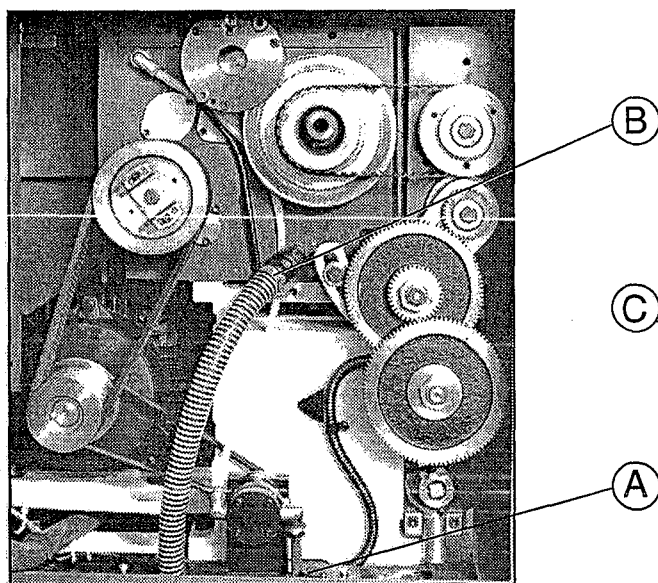

Fig. 27
HEADSTOCK (Fig. 27)
A Pipe returns oil from the bottom of the Headstock to the oil Pump. Ensure that the oil level in the system is kept topped up, through the filler (A) in the Oil Tank. **Do not fill through Headstock Cover.** Check oil level weekly and change the oil every year using Shell Tellus oil 37 (ISO VG 37). The headstock may be drained via the drain plug on the headstock face just below the return pipe (B) Fig. 27. System capacity is approximately 16 litres (28 pints).